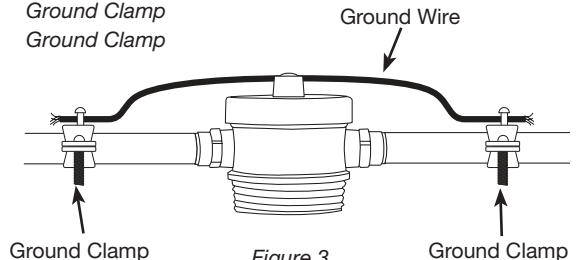

Figure 3
5. Install Whirlpool Grounding Kit WHKF-GRND, sold separately, in metal water piping systems (see Figure 3). **IMPORTANT:** Metal water piping systems are required to be connected to the electrical ground. To maintain the ground connection, obtain and install kit WHKF-GRND by contacting the store where the filter head was purchased or contact Whirlpool at 1-866-363-9472.